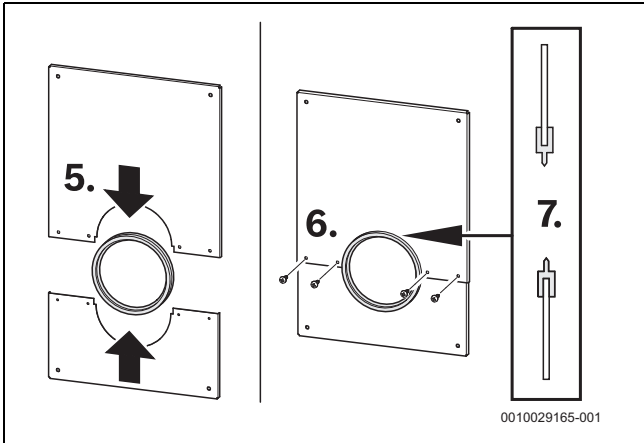

Fig. 31 Assembling flue inspection plates
7. Check the rubber gasket is seated properly as shown in figure 31.